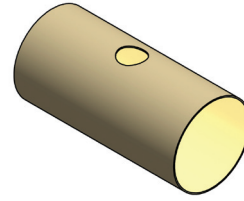

Fig. 62: Core drilling
- 2 Cut the hole with a suitable core drill. The size of hole (-0/+5 mm) depends on the outside diameter of the pipe to be joined (Figure 62).